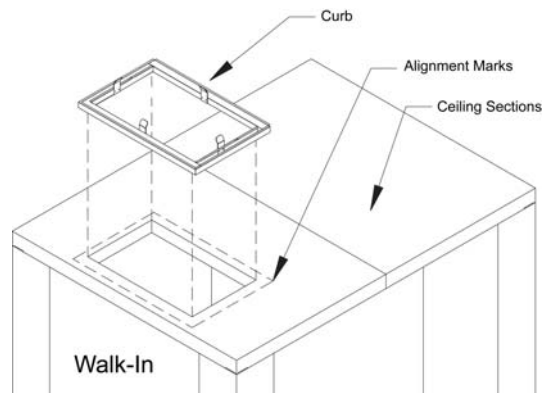

Figure 3
2. Remove the paper from the gasket and position the curb, gasket side down, on the pencil line. Press down firmly. **Note:** Movement of the curb is very difficult after the gasket adheres to the ceiling section. Refer to Figure 3.